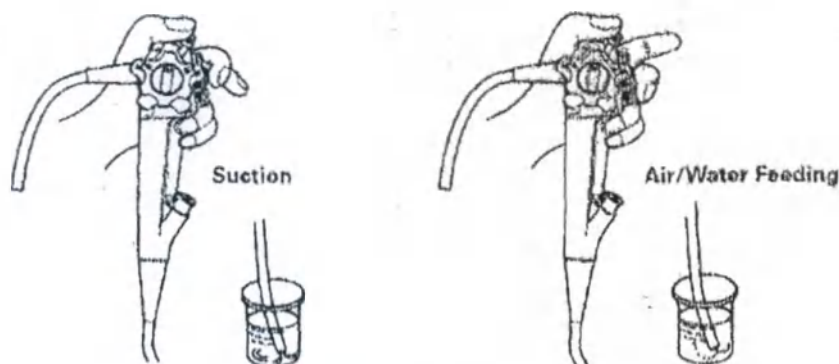

Fig.8.
- Connect the flexible aspiration tube of the vacuum source to the light guide aspiration connector on the endoscope. Turn on the power supply of the vacuum source, then place the distal end of the videoendoscope in the water and adjust the aspiration with the aspiration valve on the videoendoscope. (see Fig. 8)
- Turn on the air pump, adjust the air/water supply valve and make sure the system is working properly. (See Fig. 8 (right))